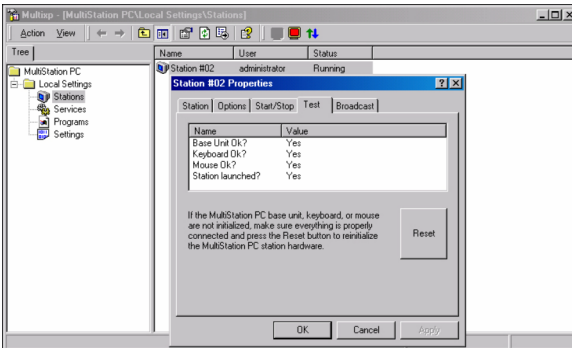

Figure 12. Test screen
The “Test” tab (Figure 12) verifies that the base unit, keyboard, and mouse are initialized and the station’s launch status. If any item is not initialized on start-up, the value for that item will be “No”. Check the item whose value is “No” and click on the “Reset” button. This will reinitialize the user module, keyboard, and mouse. The value should change from “No” to “Yes” for that item.
- Cable is loose; re-seat keyboard or mouse cable at the CPU and the remote user module and reset the keyboard and mouse (Refer to Figure 12)